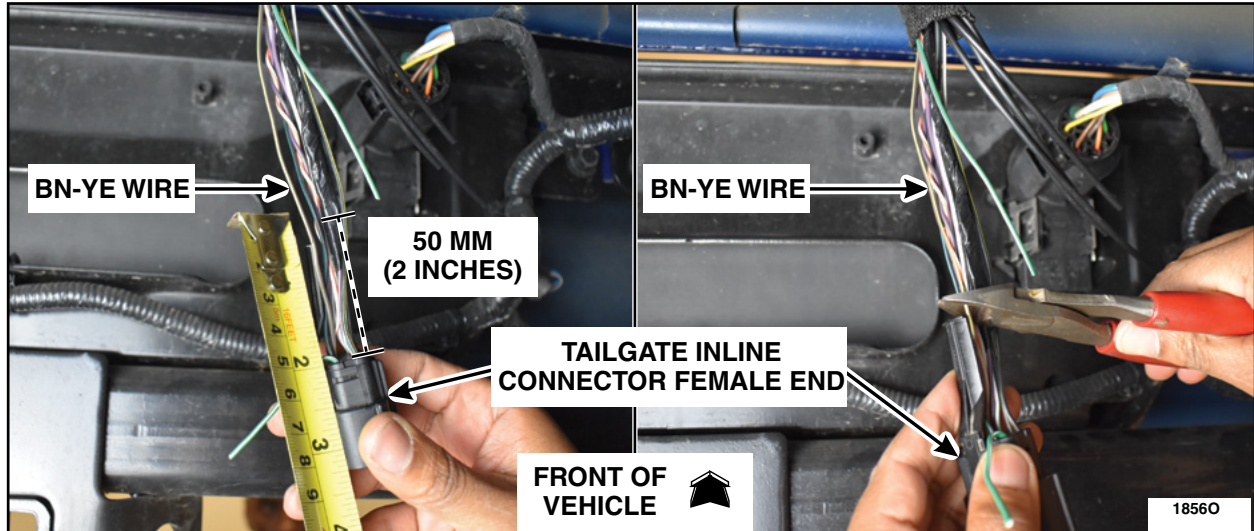

FIGURE 17
20. Measure 50 mm (2 in) from the back side of the tailgate inline connector female end and cut the BN-YE wire (16 pin connector: cavity 8 OR 12 pin connector: cavity 12). See Figure 17.